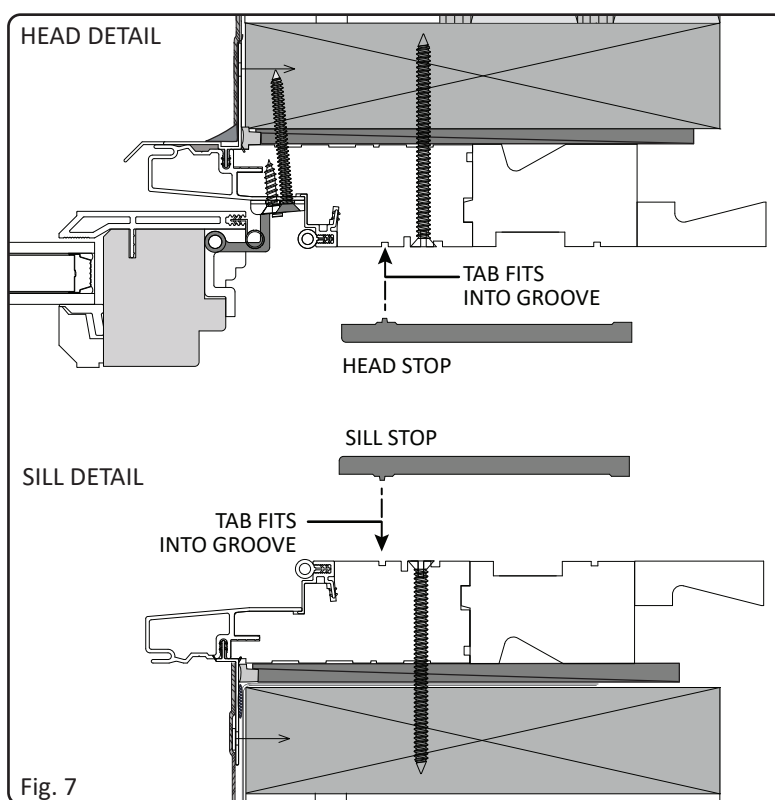

Fig. 7
7. **(Fig. 7)** Install the stops on the head and sill. Align the locator tabs on the stops with the corresponding grooves in the jambs to ensure proper alignment.